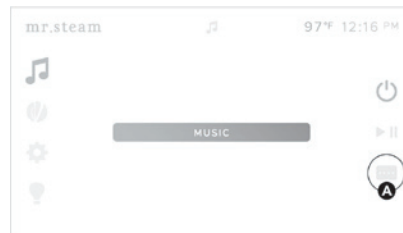

Figure 15
3. Tap the **SETTINGS** icon (**A** in **Figure 15**).